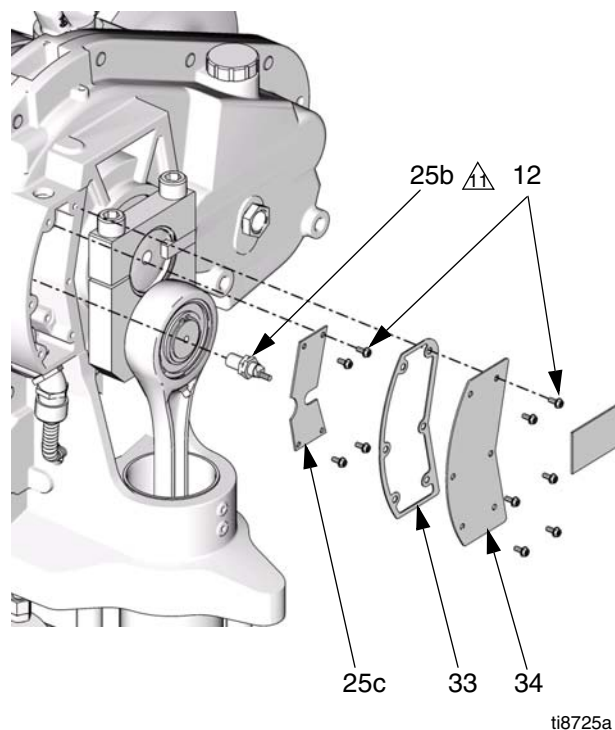

FIG. 8. TDC Sensor
4. Remove two screws (12) and the cover (32).
5. See FIG. 8. Remove six screws (12), the circuit board cover (34), and the gasket (33).
9. See FIG. 8. Remove four screws (12) and the circuit board (25c).